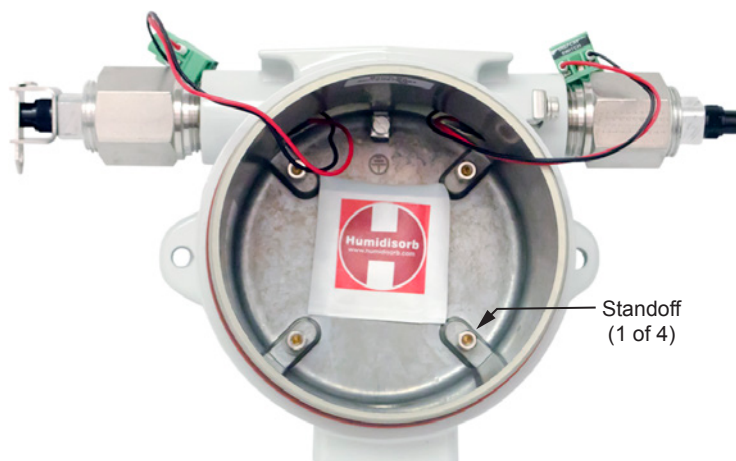

Figure 5.17—Empty explosion-proof enclosure showing standoff locations
11. Tighten the standoffs in the back of the enclosure (Figure 5.17).